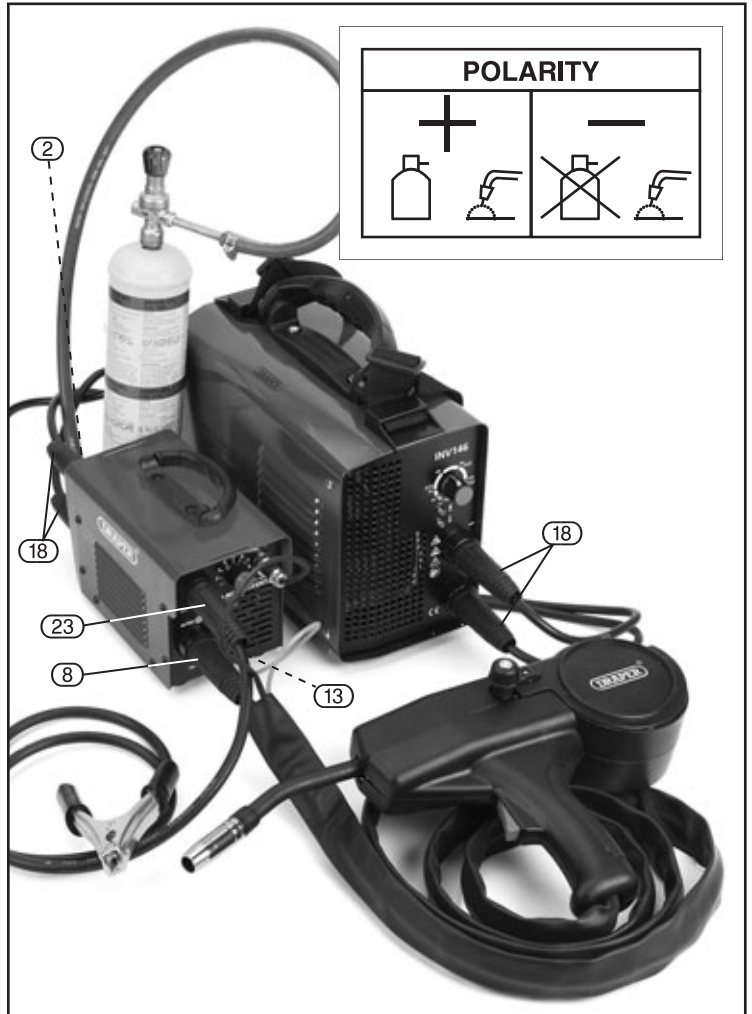

FIG.9
10. Connect the converter to a MMA welder as shown in Fig.9.